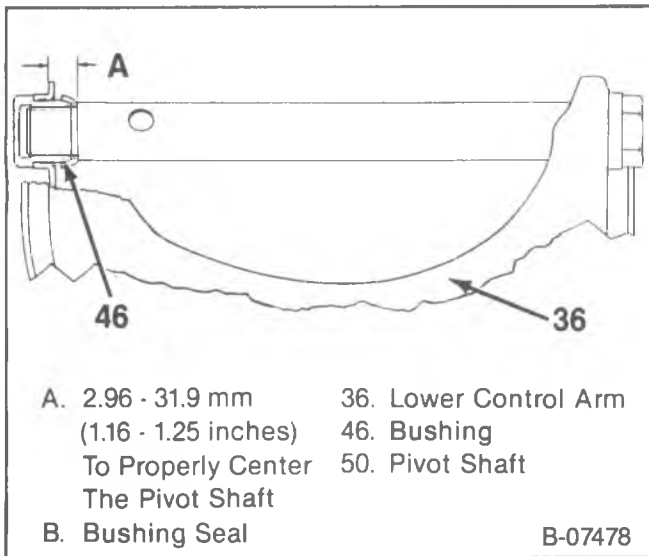

Figure 27—Centering the Lower Control Arm Shaft (R-P20/2500, 30/3500 and G30/3500 Models)
1. Pivot shaft (50), seals, and bushings (46), to the lower control arm (36).
- Pivot shaft into the lower control arm. Attach the bushings. Center the shaft in the lower control arm (figure 27).